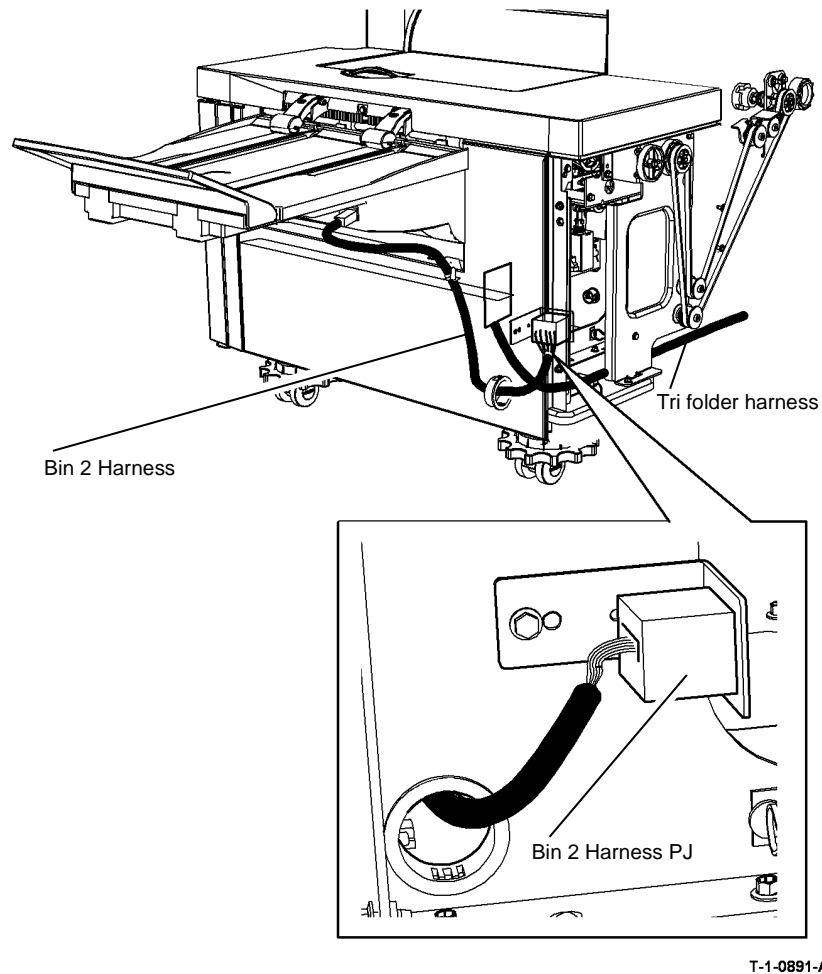

Figure 1 Harness removal
2. Disconnect, then remove the relevant harness, Figure 1.